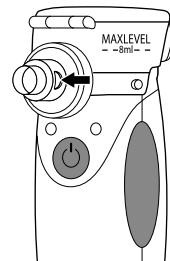

Fig.9
**Important!** During inhalation do not close the holes (Figure 9). This will reduce the efficiency of the device.